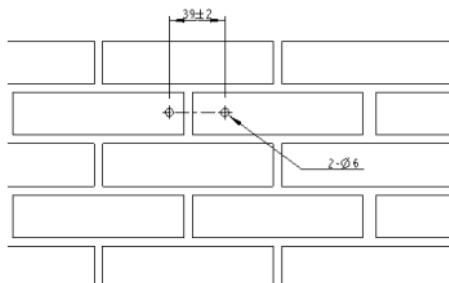

Fig 2-4 Drill the wall mounting holes
- 2) Drill two  $\phi$  6 holes on the wall with 39mm space distance as Fig 2-4